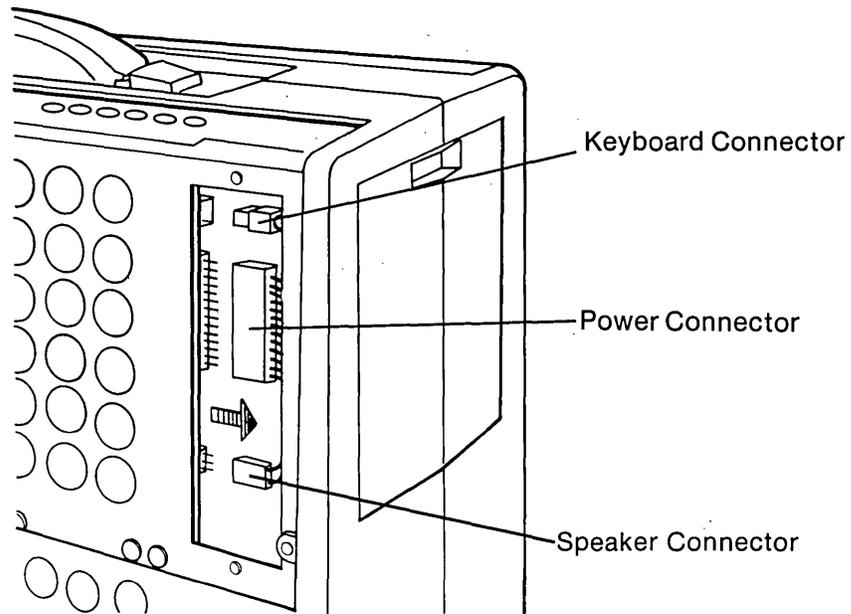

Figure 5-13. Disconnecting the Power Connector, Speaker Connector, and Keyboard Connector.
- 10 Locate and disconnect the following processor board connectors: power connector, speaker connector, and keyboard connector (see Figure 5-13).